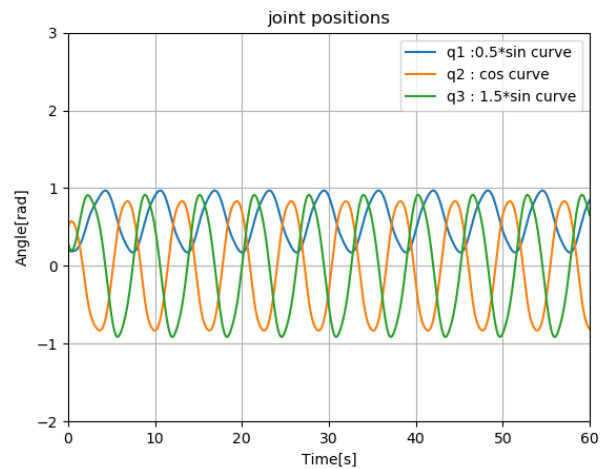

Fig. 3: Positions of robot's joints during simulation.
- The Fig.3: shows the time evolution of the three **joint angles** (q_1, q_2, q_3) over a **60-s simulation**.